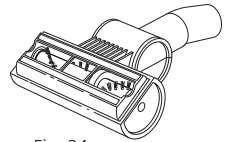

Fig. 24
- 3 Turn the turbo brush over to inspect the rotating brush and cut away any build-up of hair or string wrapped around the rotating bristle brush with scissors. (Fig. 24)